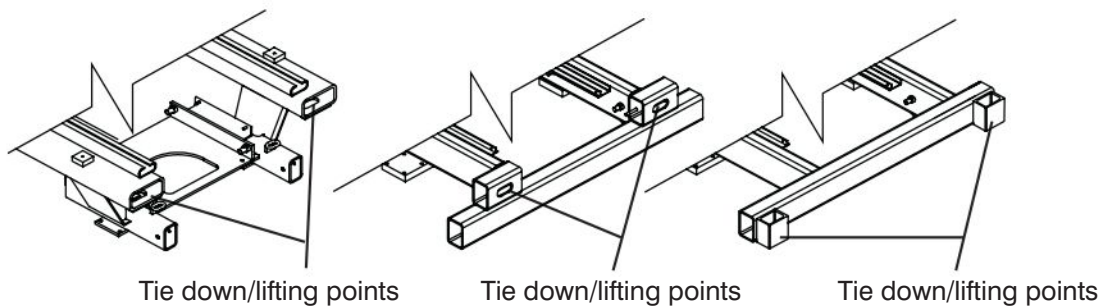

Figure 2-18. Tie Downs/Lifting Points
- The lifting/rigging may be attached to all four lifting points as illustrated in Figure 2-18.
When transporting, the aerial platform must be secured to the truck or trailer deck. Tie downs are available as illustrated in Figure 2-18.